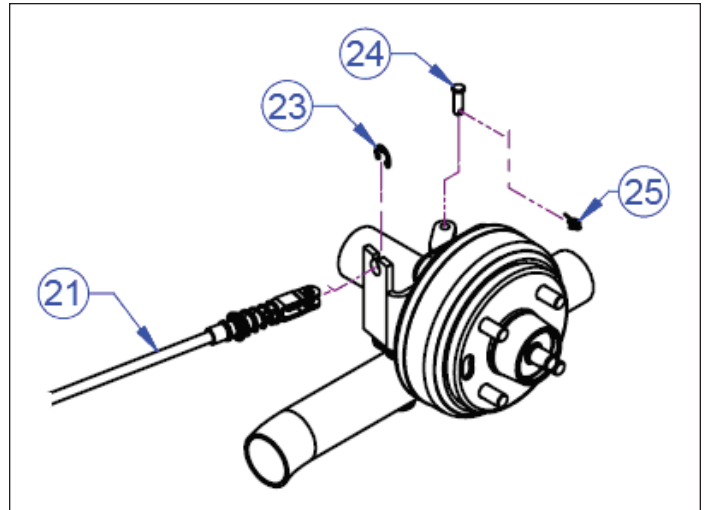
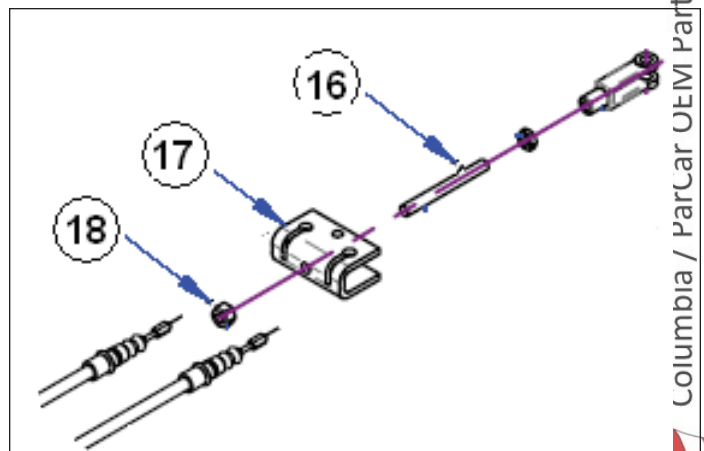

Figure 5-9. Brake Cable at Rear Axle
Figure 5-10. Anti-Roll Away Adjustment
1. At rear brake assembly (Figure 5-9), remove cotter pin (25), clevis pin (24) and e-ring (23) from brake cable (21).
3. Locate brake cable ball end at brake equalizer (17) and remove it from equalizer (Figure 5-10).
6. In order to install new cables, it may be necessary to lengthen rod (16, Figure 5-10).
7. Locate brake cable ball ends at brake equalizer (17). Thread rod (16) through equalizer.
8. Depress accelerator/brake pedal. Thread nut (18) onto rod (16).
9. Secure brake cables (29) to mounting base with e-ring (30) on inside of the base (Figure 5-9).
10. Route brake cable (21) clevis end to rear axle brake actuator arm (Figure 5-9).
11. Secure cable clevis end to arm with clevis pin (24) and cotter pin (25) (Figure 5-9).
12. Secure cable sheath with e-ring (23).
3. Tighten the nut (18, Figure 5-10) on the equalizer block stud (16).